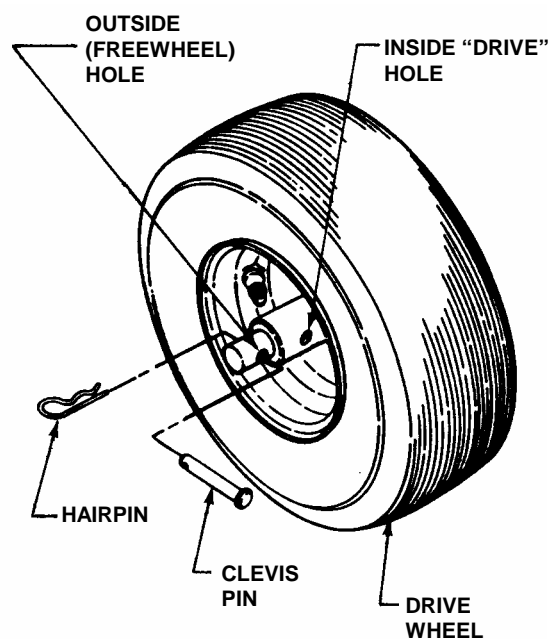

FIGURE 2.9
3. Reinstall clevis pins and hair pins into outer holes to prevent wheel from sliding off of the end of axle. Wheels will rotate freely on axle. **IMPORTANT:** If engine is started the wheel drive will not operate unless wheels and axle are reconnected. Reinstall clevis pins and hair pins into holes in the hubs of the wheels and through axle. See Figure 2.9.